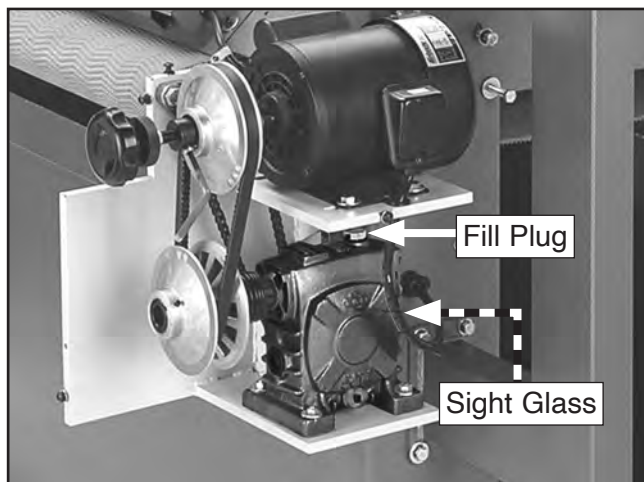

Figure 27. Location of speed reducer sight glass and fill plug.
1. Remove conveyor motor cover and check sight glass on back of speed reducer (see **Figure 27**) to check oil level.